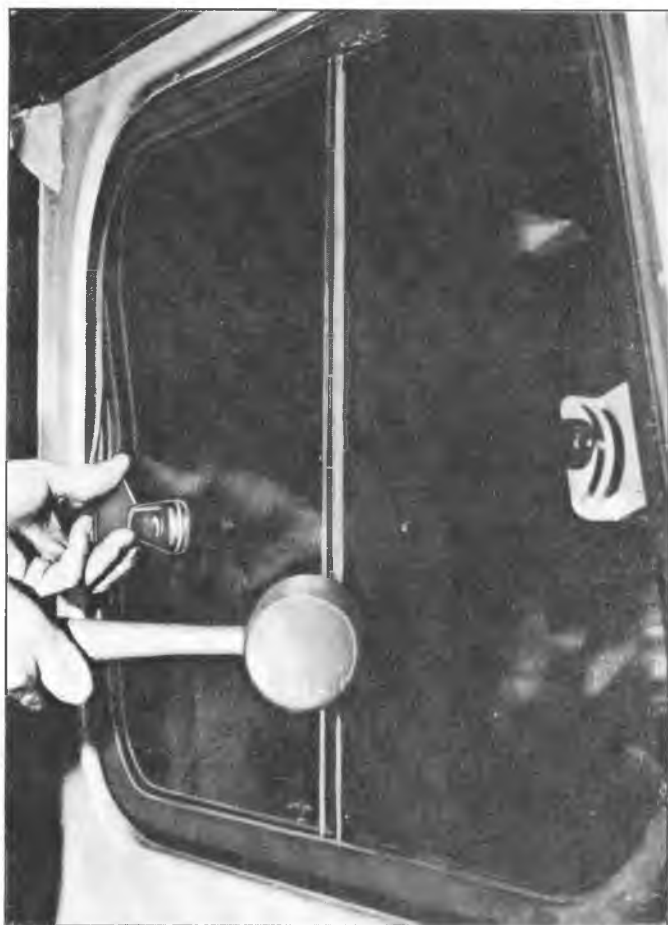

Fig. 78—Tapping Stationary Glass into Weatherstrip
6. Use rubber mallet to tap glass back to the weatherstrip. Work into weatherstrip channel using paint scraper or similar tool and rubber mallet (fig. 78). Tap glass firmly into weatherstrip.